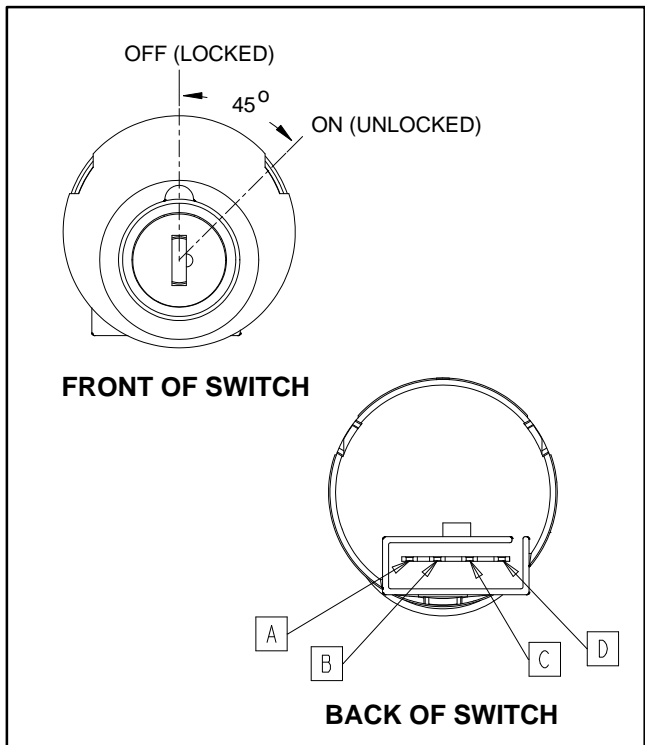

Figure 57
3. With the use of a multimeter (ohms setting), the key switch functions may be tested to determine whether continuity exists between the various terminals for each switch position. The switch terminals are marked as shown (Fig. 57). The circuitry of the supervisor key switch is shown in the chart (Fig. 58). Verify continuity between switch terminals.